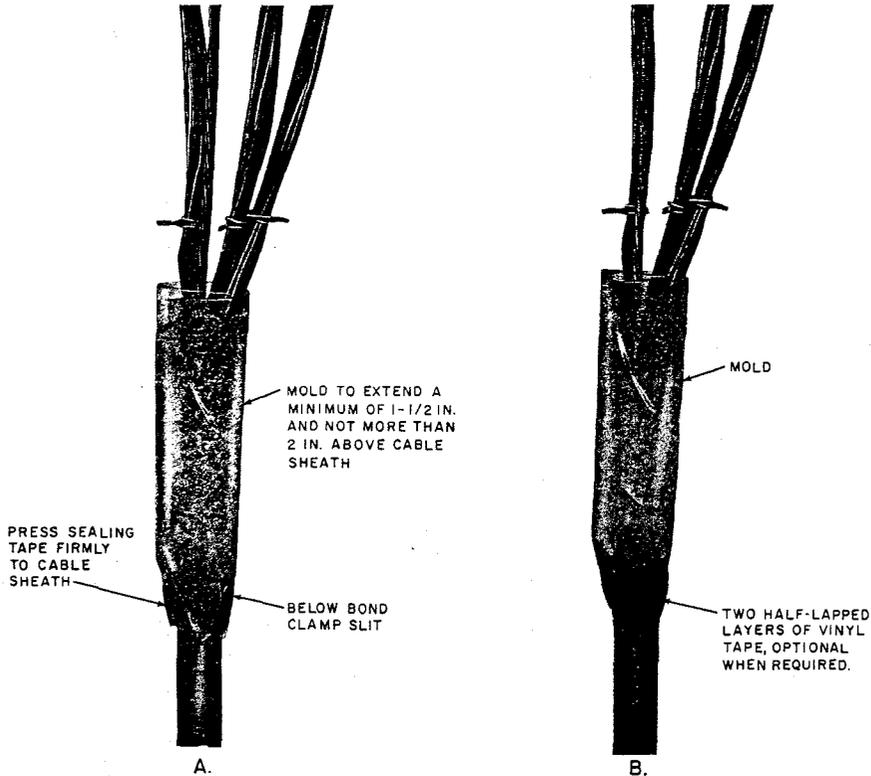

Fig. 10—Mold in Place
- (k) Wrap the mold snugly around the circumference of the cable. Being careful not to form wrinkles, seal the mold at the adhesive overlap. To seal the bottom of the mold, squeeze the sealing tape firmly (Fig. 10).